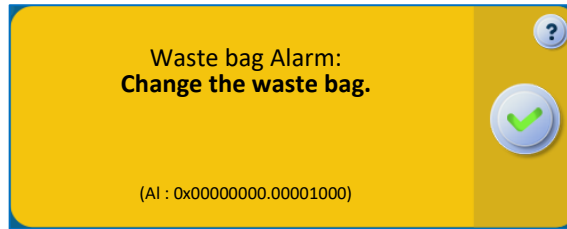

Figure 136 : Waste Bag Alarm (2nd situation)
- A second message interrupts the treatment and indicates that the bag can be changed. (see Figure 136).